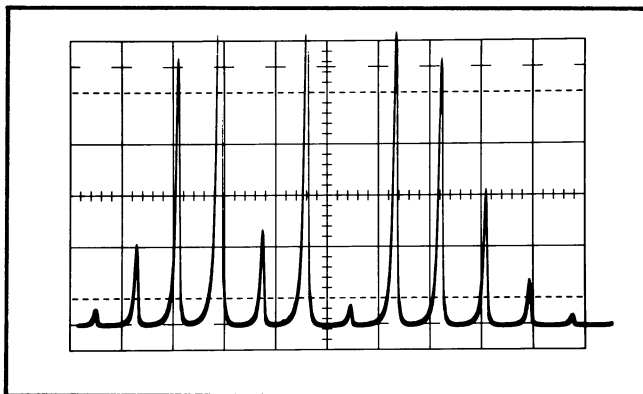

Fig. 2-2. Picket Fence display of 100 kc markers.
19. With the RESOLUTION control, adjust for the best resolution between markers (see Fig. 2-2). The markers on the screen are 100 kilocycles apart. The higher frequency markers are to the left on the screen.